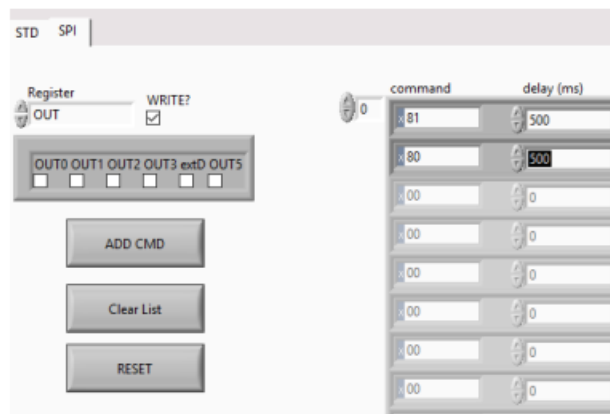

Figure 34 - change delay of commands
- Change the delay of command 81 to T_ON, the delay of command 80 to T_OFF (See Figure 34)